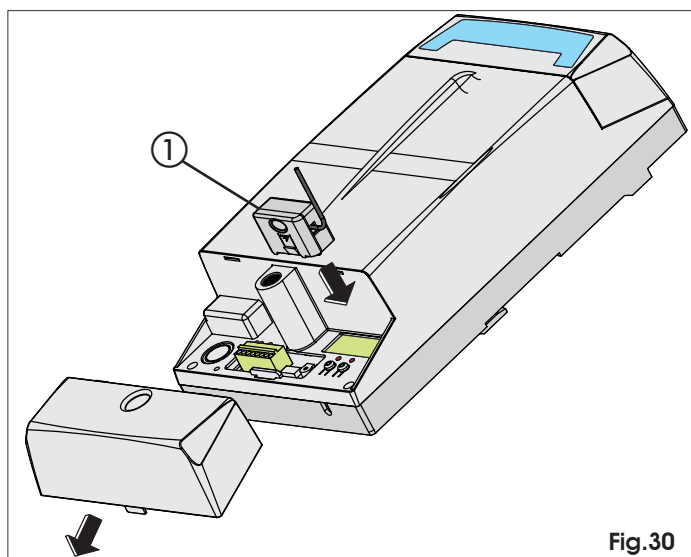

Fig.30
The control unit has an integrated 2-channel decoding system (DS, SLH, RC) named OMNIDEC. This system makes it possible to memory-store both total opening (OPEN A) and partial opening (OPEN B) of the automated system - this is made possible by an additional receiver module (Fig. 30 ref. ①) and radio controls on the same frequency.